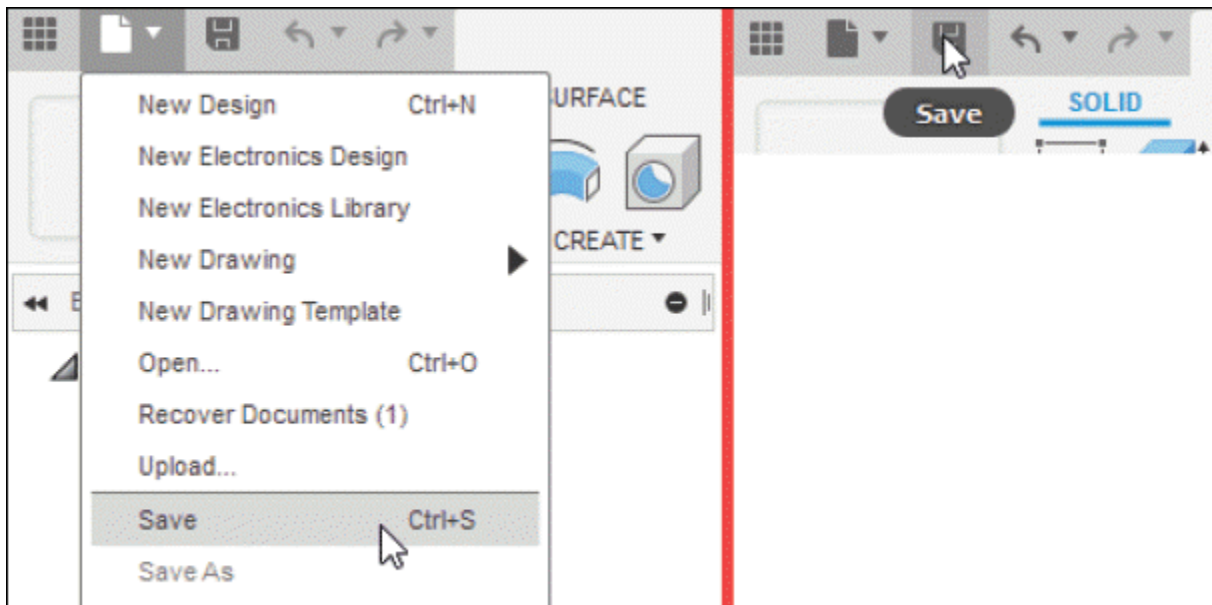
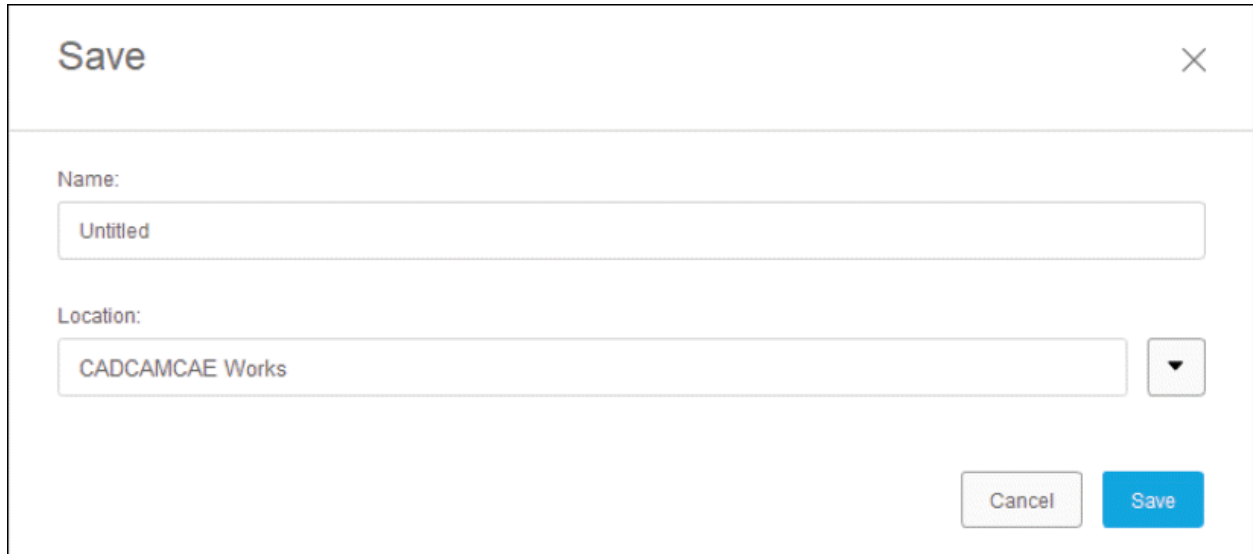

Figure-22. Save tool
Figure-23. Save dialog box
- Click on the **Save** tool from **File** menu or select the **Save** button from **Application bar** as shown in Figure-22. The **Save** dialog box will be displayed asking you to specify the **Name** and **Location** of your file; refer to Figure-23.